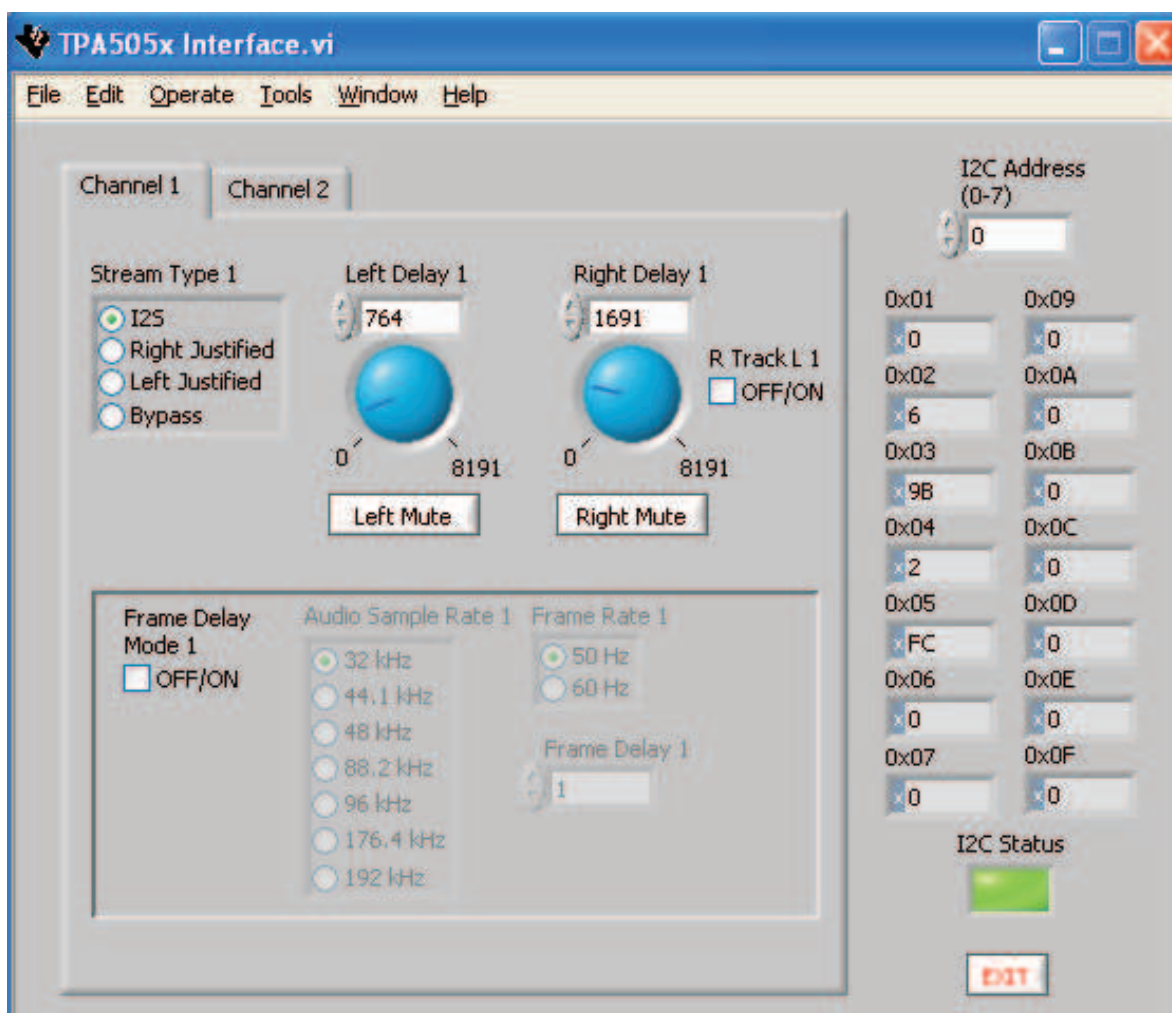

Figure 1. TPA5051 in I²S Mode With Separate Delays for Left and Right Channels
3. The right and left delays can be adjusted by turning the knob to the desired number of delay samples, or simply entering the number in the box provided (see Figure 1). The maximum number of delay samples per channel for the TPA5051 is 4095. The TPA505x software, however, allows for programming up to 8191 samples per channel. This is because the software is designed to work for both the TPA5050 and TPA5051. **A delay set above 4095 samples is not valid for the TPA5051.**